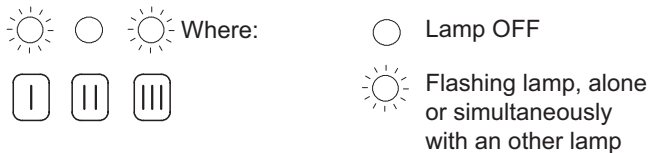

Figure 8.22
- 7 Keep pressed the reset button D for about 5 seconds until the lock-out signal lamp E is switched OFF. The boiler runs in c.h. mode and the lamps F give the indication as in Figure 8.22.